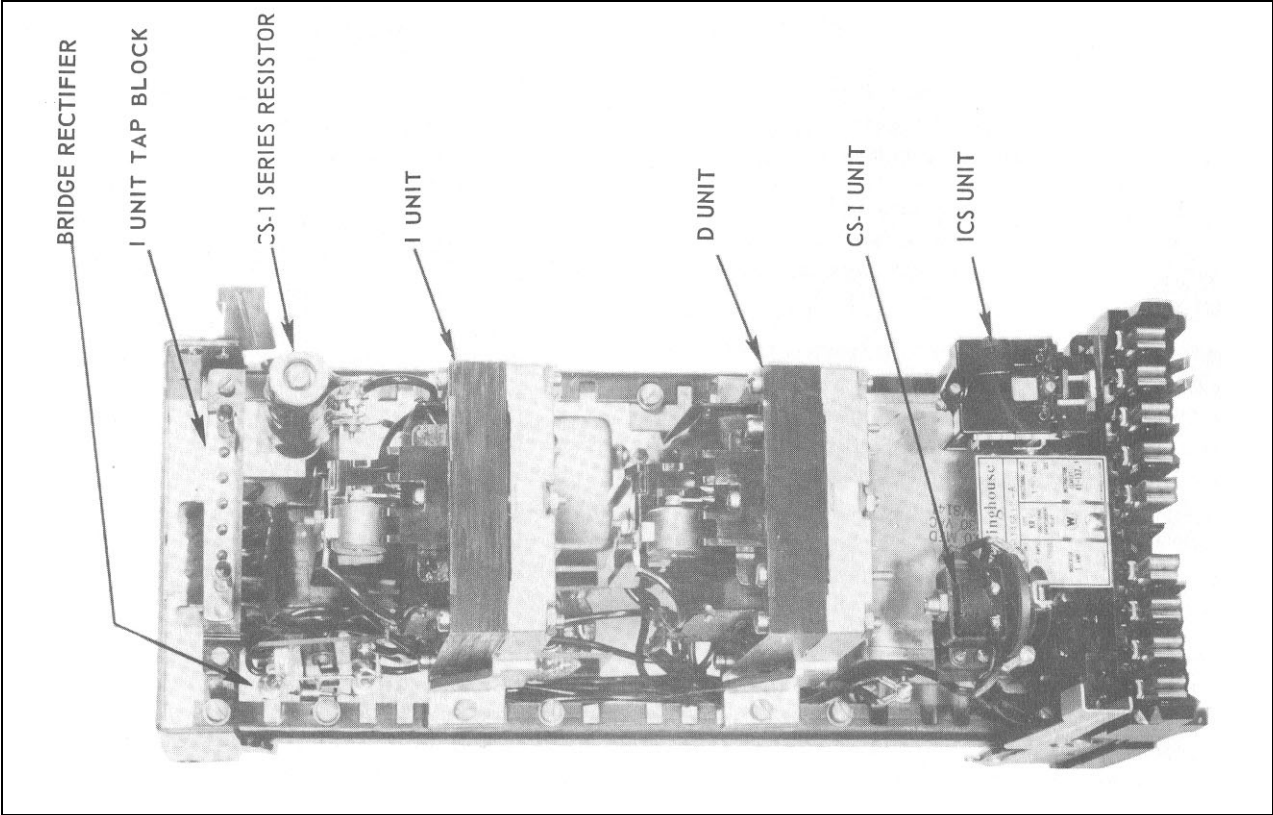

Figure 1. Type KRV Relay Without Case (Front View)
The Type KRV relay consists of a directional unit (D), an auxiliary switch (CS-1), an instantaneous unit (I), an instantaneous overcurrent unit transformer, and an indicating contactor switch (ICS). The principle component parts of the relay and their location are shown in Figures 1 and 2.
2.1 DIRECTIONAL UNIT (D)